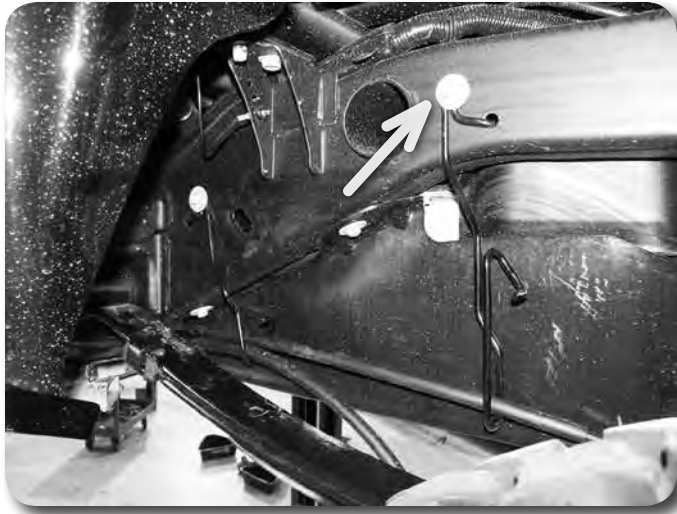

Figure 43
6. Remove the driver's side parking brake cable brackets from the driver's side frame rail Figure 43.